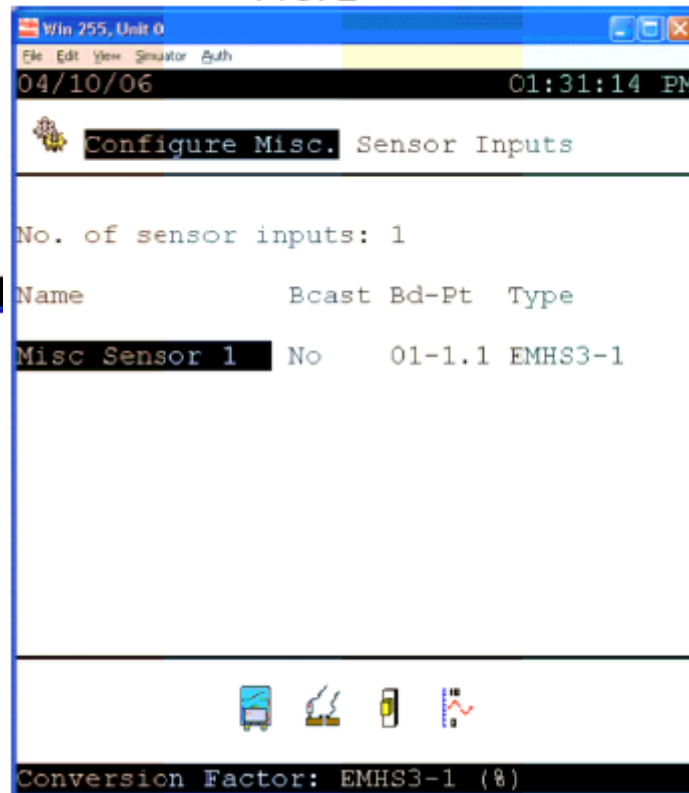

Fig. 2
2. Setup board and point settings under misc sensor screen. (See fig. 2 For details)